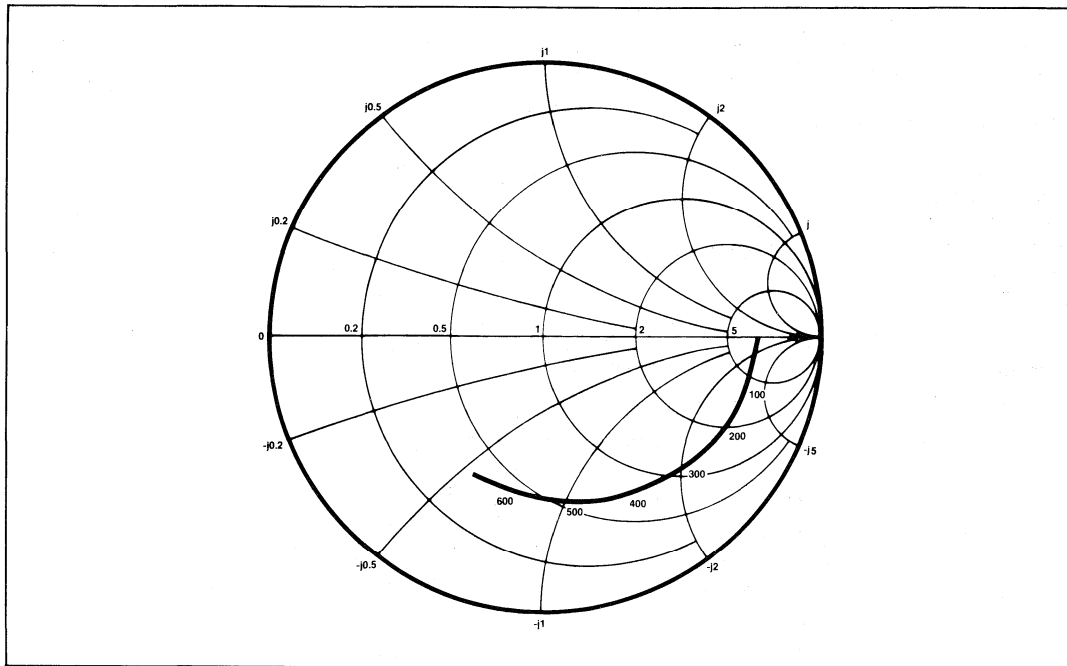

Fig.5 Typical input impedance. Test conditions: supply voltage 5V, ambient temperature 25°C, frequencies in MHz, impedances normalised to 50 ohms.
7. Input impedance is a function of frequency. See Fig.5.